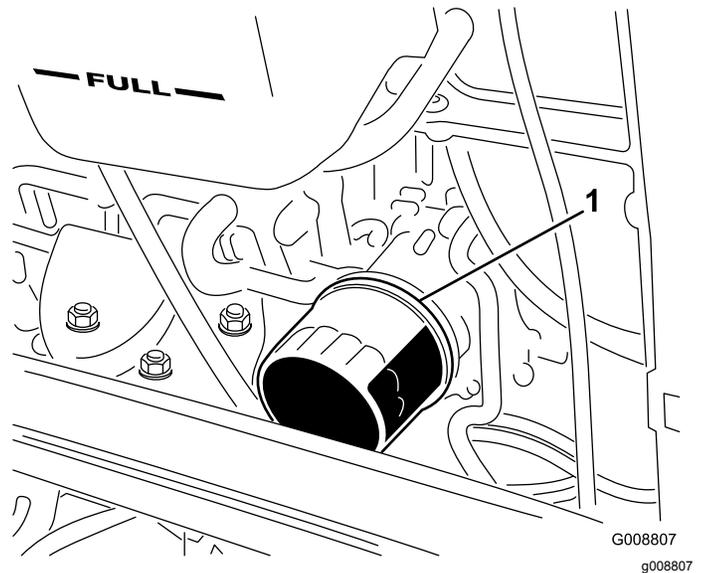

Figure 31
2. Remove the oil filter (Figure 31). Apply a light coat of clean oil to the new filter seal before screwing it on. Do not overtighten.